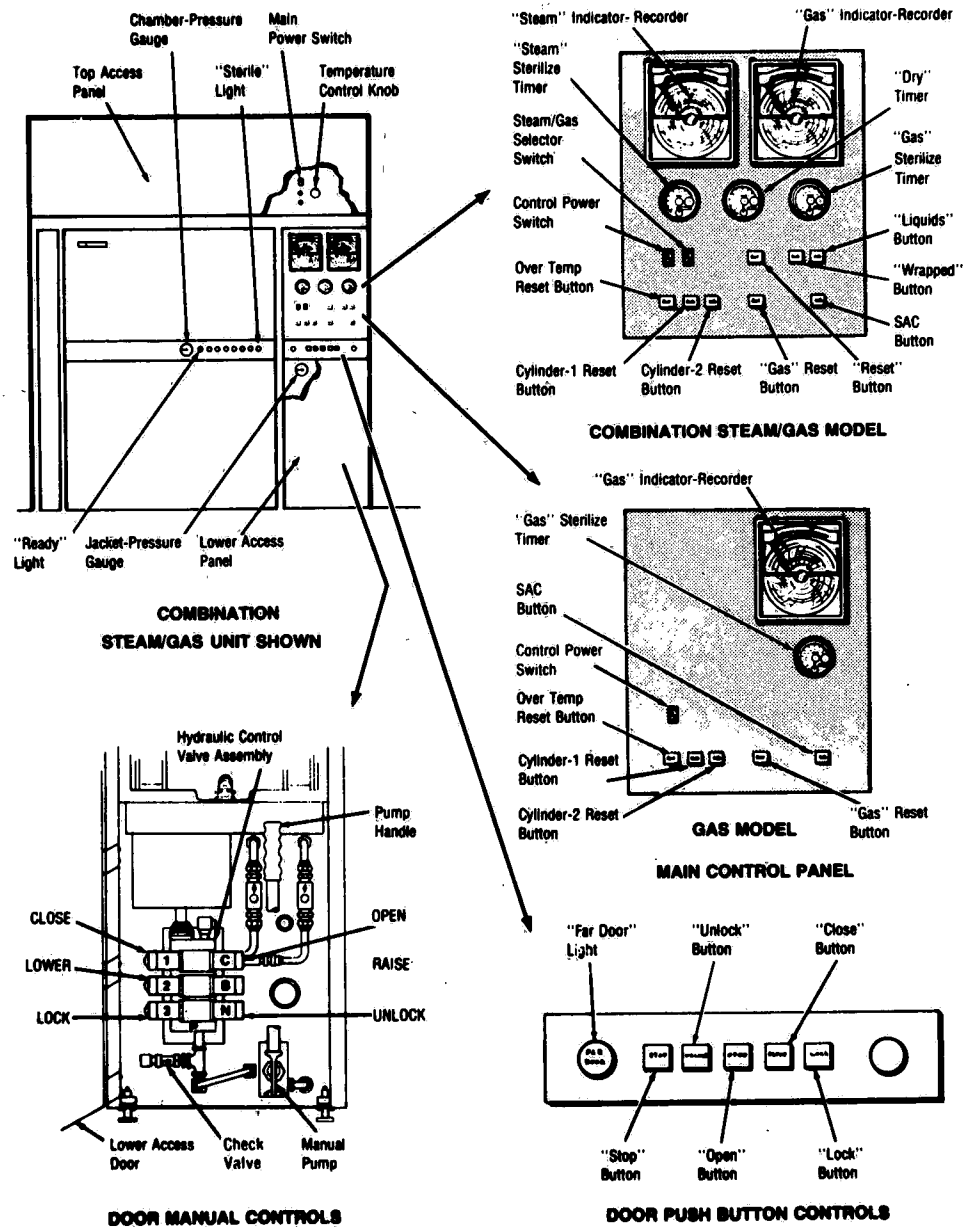

Figure 2-2. CONTROL LOCATIONS, GAS AND STEAM/GAS MODELS.
- Observe the Chamber Pressure Gauge (Figure 2-2).